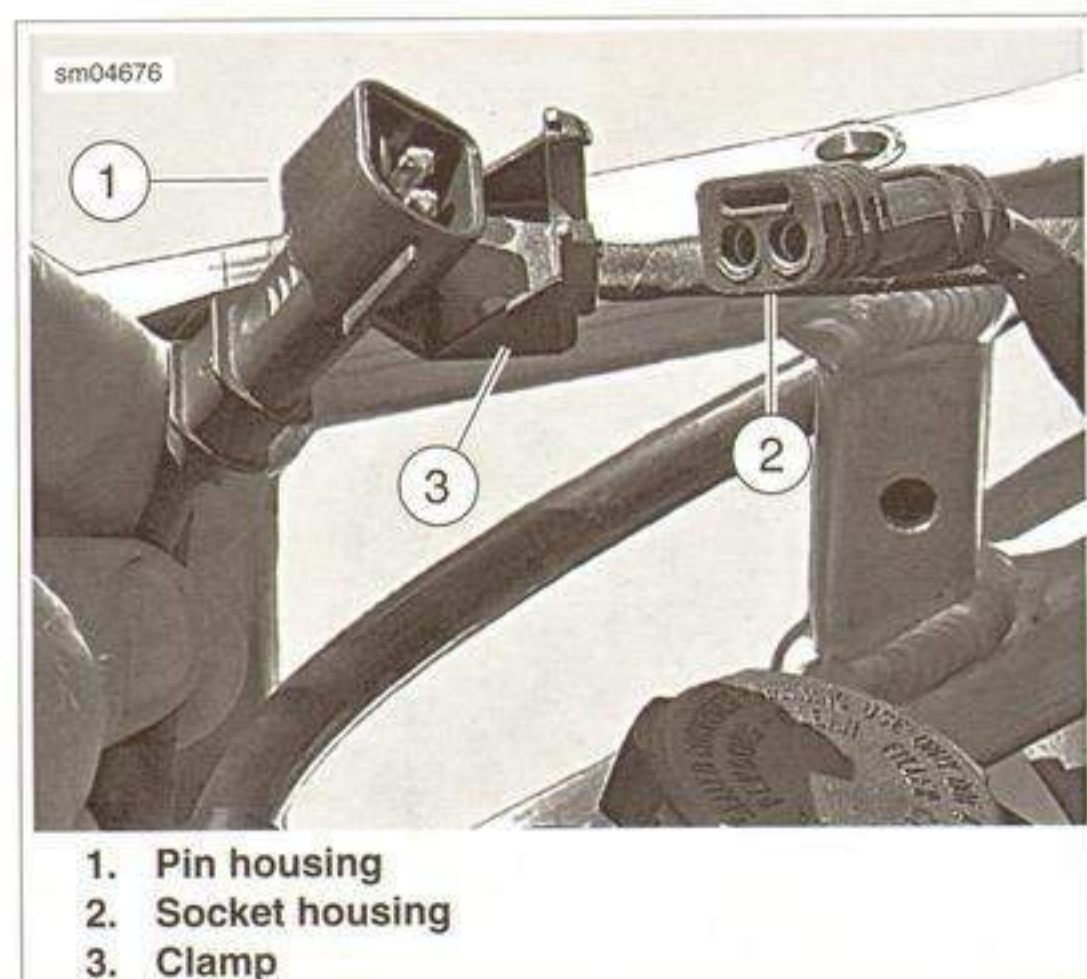

Figure 7-29. Regulator Connector [77]
4. See Figure 7-29. To separate the voltage regulator connector [77] pin (1) and socket (2) housings, press the clamp (3) away from the socket housing.